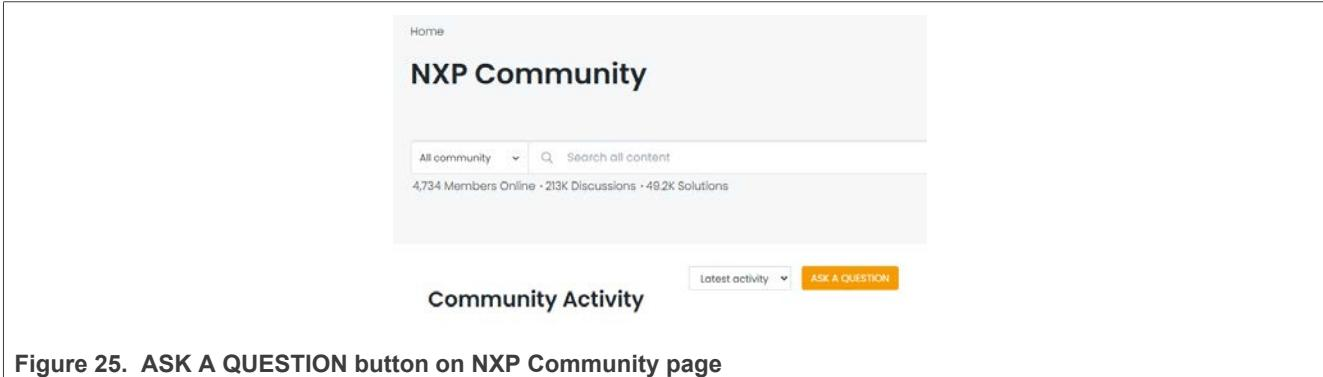

Figure 25. ASK A QUESTION button on NXP Community page
Step 4 – Click ASK A QUESTION (Figure 25).